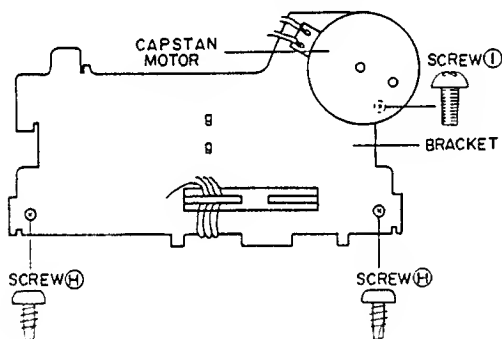

Fig. 3-8
- 1) Remove the side plate retaining screw ⑥ and then remove the side plate.
- 2) Remove the bracket retaining screw ④ and then remove the bracket. (Refer to Fig.3-8).